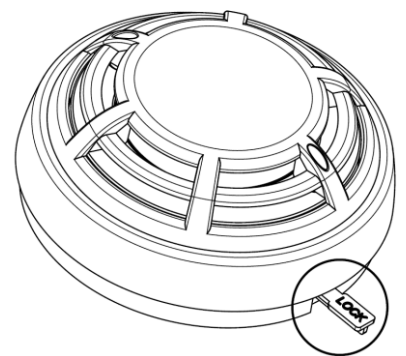

Fig.4
- If the sounder is locked to the base, to unlock it, insert first the key to the specified location (Fig. 4) and rotate the sounder counterclockwise;